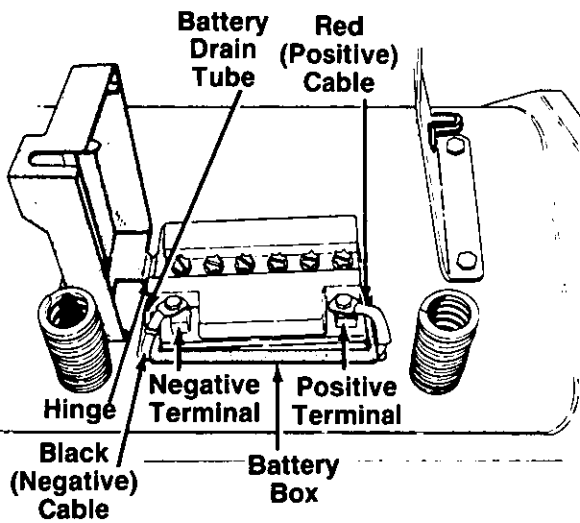

FIGURE 3.
- ← 1. Raise the seat bracket (on top of the fenders). Push any electrical wires out of the way so they are not disconnected when installing the battery box. Place the plastic battery box into the opening beneath the seat bracket. The hinge on the battery box goes toward the left side of the unit. Snap the battery box in place so the retaining edges on the box are beneath the fender. Make certain the battery cables are routed up along each side of the box. See figure 3.
2. Place the battery inside the battery box so that the positive terminal is toward the right side of the unit. See figure 3. Route the battery drain tube down beside the battery box.
3. Slide the hex nut (provided with battery hardware) into the positive (+) terminal. Place the positive (heavy red wire) cable on the positive terminal. Secure with bolt provided. See figure 3.